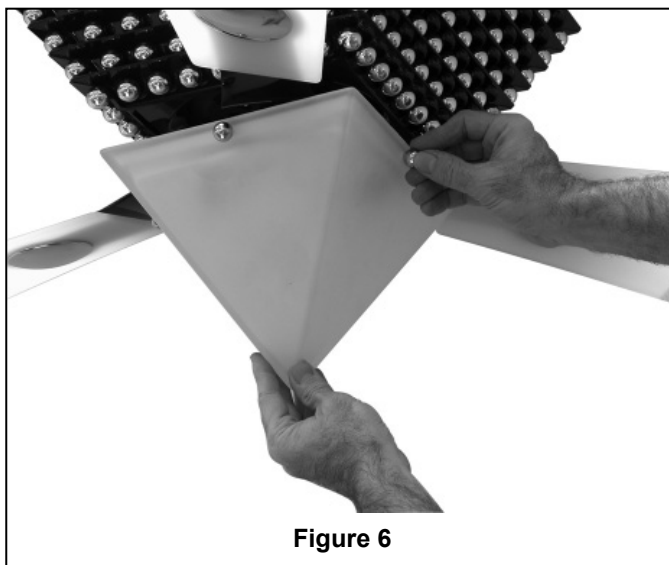

Figure 6
6. Securely attach Lower Glass by tightening Final Glass Fasteners (4) supplied with the fan. Don't overtighten. (Figure 6)